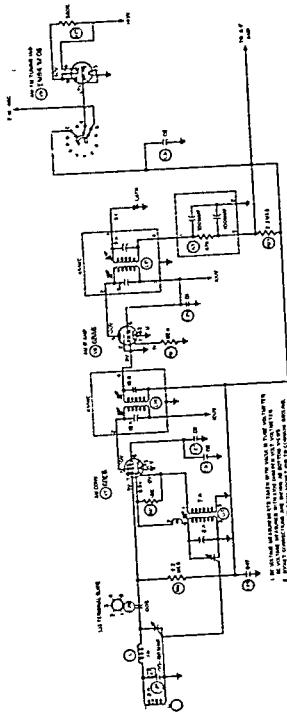

FIG. 14-13. Silverstone a-m tuner with crystal diode detector, used in an a-m/f-m receiver.
Crystal diodes are found most often as the a-m detector in a-m/f-m receivers. The schematic diagram of the a-m tuner and detector of a Silvertone a-m/f-m receiver is given in Fig. 14-13 as a typical example of the use
9. You suspect an open crystal detector in the receiver of Fig 14-13. How would you confirm the suspicion? List the precautions to be observed when replacing the crystal.